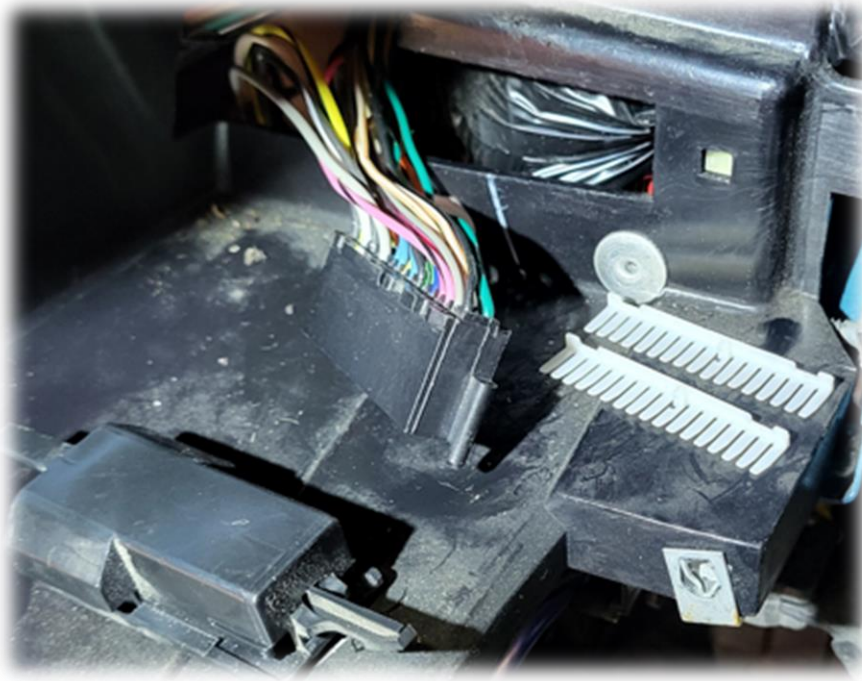

Figure 12
12. The main cluster connector is now disassembled and ready to wiring changes. You will have the connector, wiring cover and two terminal retention clips as shown in Figure 12.